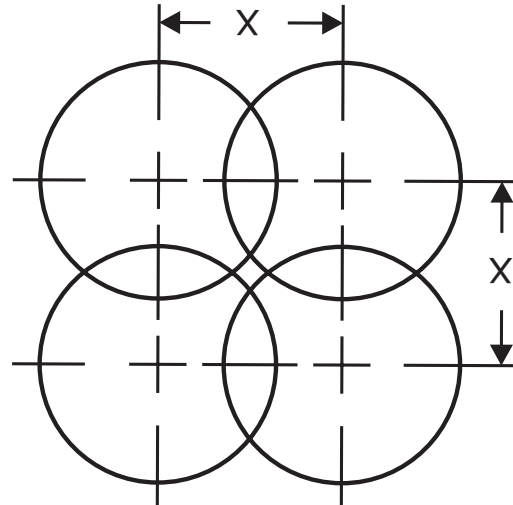

Figure 19. Area of Influence With 50% Radial Overlap
3. Insert the vibrator head vertically into the concrete and move it in the pattern shown in Figure 19 to maintain a consistent area of influence.